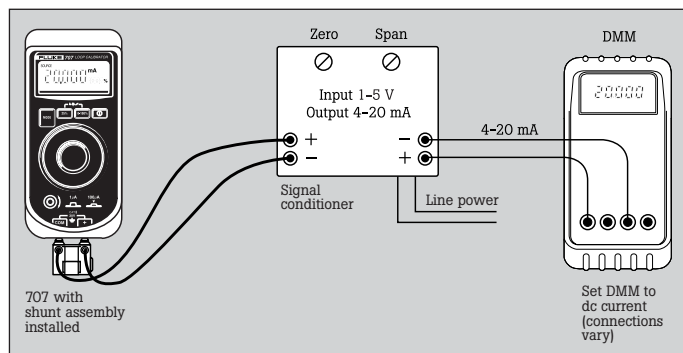

Figure 6
1. Place a precision multimeter, such as the Fluke 187 DMM, set to dc current mode, in series with the output of the signal conditioner as shown in Figure 6.